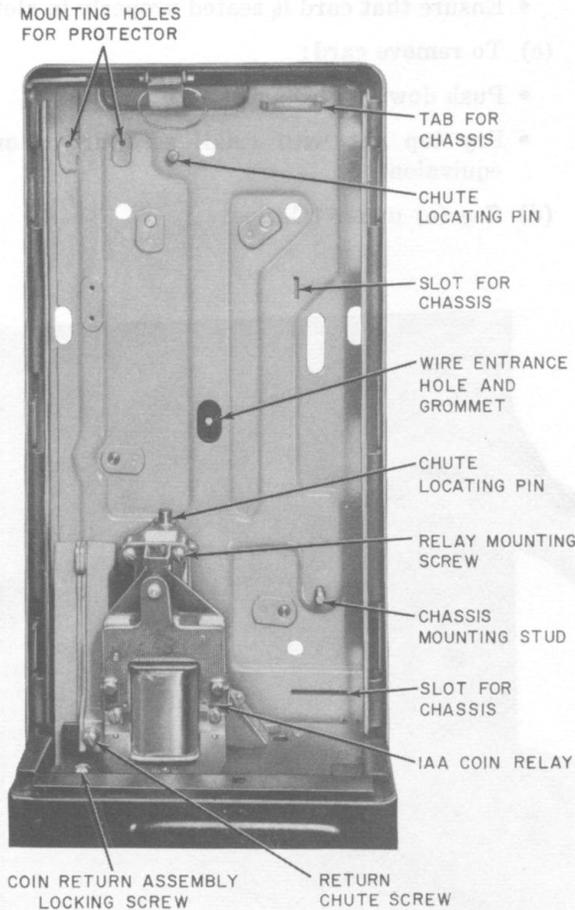

Fig. 12 — Housing and Mounting Plate Assembly (1C-Type)
- (1) Place chute on locating pins at rear of hopper assembly, and back of housing (Fig. 12 and 13).
- (1) Slide chassis under tab (Fig. 12 and 13).
- (2) Seat chassis tabs in slots.
- (3) Tighten chassis mounting captive screw.
- (4) Replace (BK) and (Y) leads on coin relay after threading through hole in hopper. Connect (Y) lead to terminal G and (BK) lead to terminal 3 of coin relay.
- (b) Feed inside wire through wire entrance hole (Fig. 12 or 13) as set is mounted on backboard.
- (e) Locate any protectors, connecting blocks, etc. where they will be inaccessible to person using coin telephone set. A 123A1A protector can be installed inside a 1C-type set when manufactured as shown in Fig. 12, using two P-205607 screws (8-32 X 1/2 brass RHM or equivalent) provided separately. Take care that lead dress does not interfere with chute operation if a protector is used. No provisions are provided for a protector in a 2C-type set.